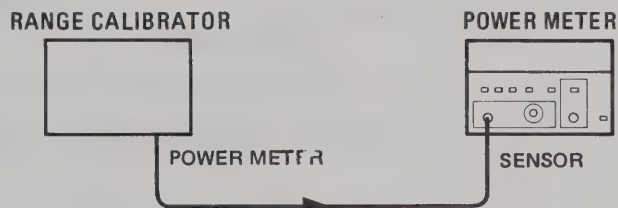

Figure 5-1. DC Offset Adjustment Setup
3. Connect the equipment as shown in Figure 5-1.